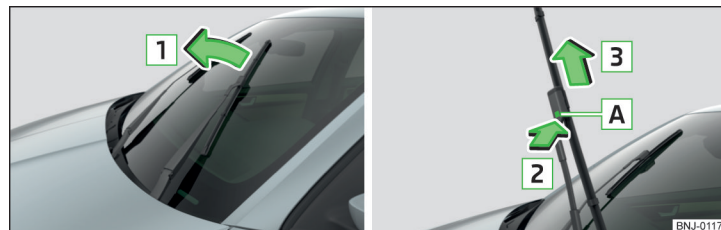

Fig. 176 Windscreen wiper blade
- › Lift the wiper arm from the window in the direction of arrow [1] » Fig. 176. ▶